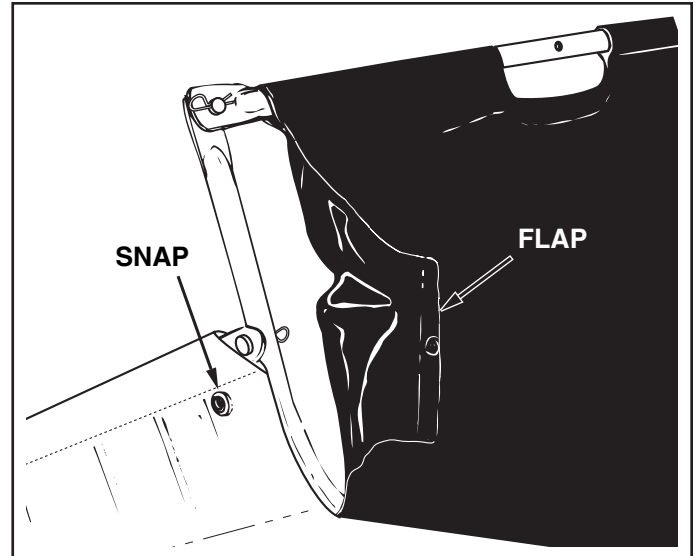

FIGURE 16
- Fold the bag flaps around the lower hopper tubes and attach to the bag bottom using the snaps. See figure 16.